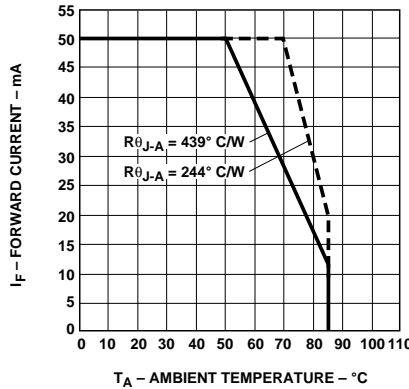

Figure 4. Maximum Forward Current vs. Ambient Temperature. Derating Based on  $T_J \text{ Max} = 95^\circ\text{C}$ .
- Derate linearly as shown in Figure 4.